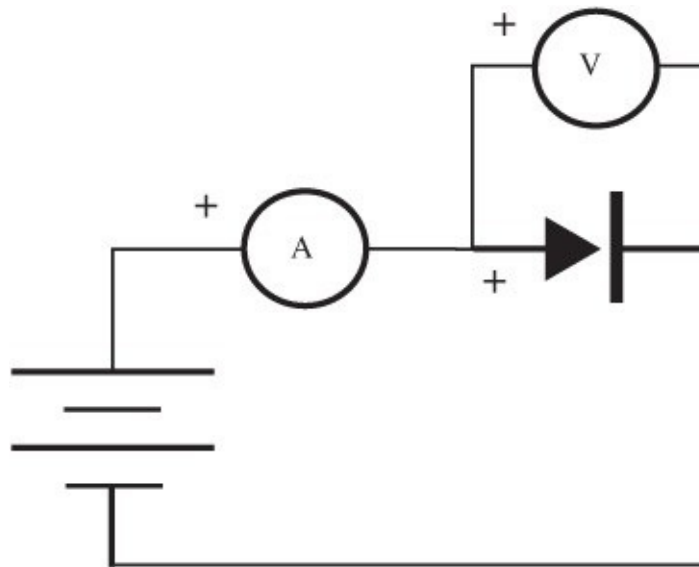

Figure 116-1 *Diode test circuit.*
1. Set up the circuit, as shown in Figure 116-1. This consists of the positive terminal of the power supply connected to the positive end of the diode (identified by the longer of the two leads). The ammeter is connected in series with the diode and, together, they are attached to the power supply. The voltmeter is connected to the two terminals of the diode.